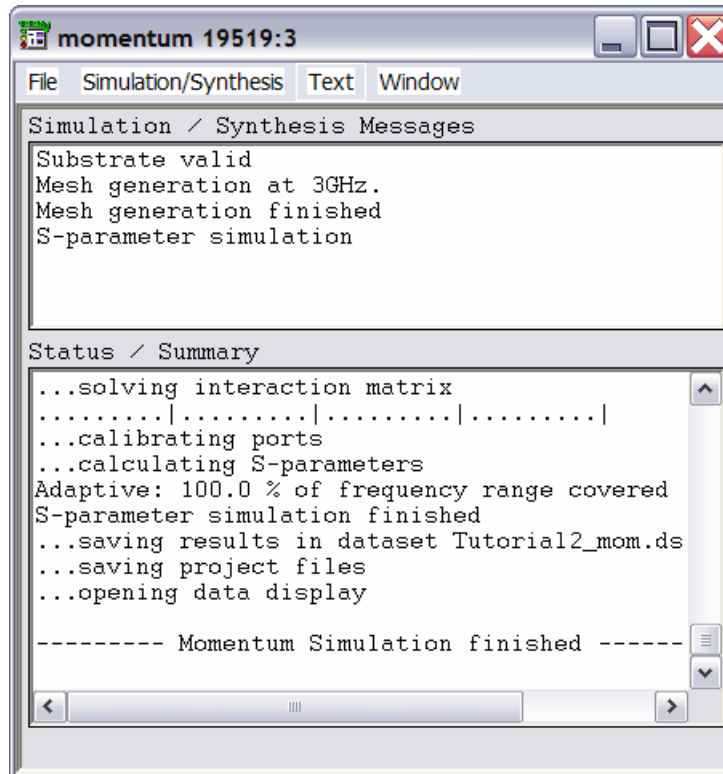

Figure 8.
14. Select the “Momentum → Simulation → S-parameters...”. The simulation control menu pops up; in the “Edit/Define Frequency Plan” field, choose “Adaptive” from the “Sweep Type” menu. Enter 1 and 3 GHz in the Start and Stop frequency points and enter 201 as the “Sample Point Limits”. Click on “Add to Frequency Plan List” to add the sweep to the “Frequency Plans” list; make sure that the “Open data display when simulation completes” check box is checked. Click on Simulate to start simulating the structure. You can see the simulation progress in the momentum window as shown in Figure 8.